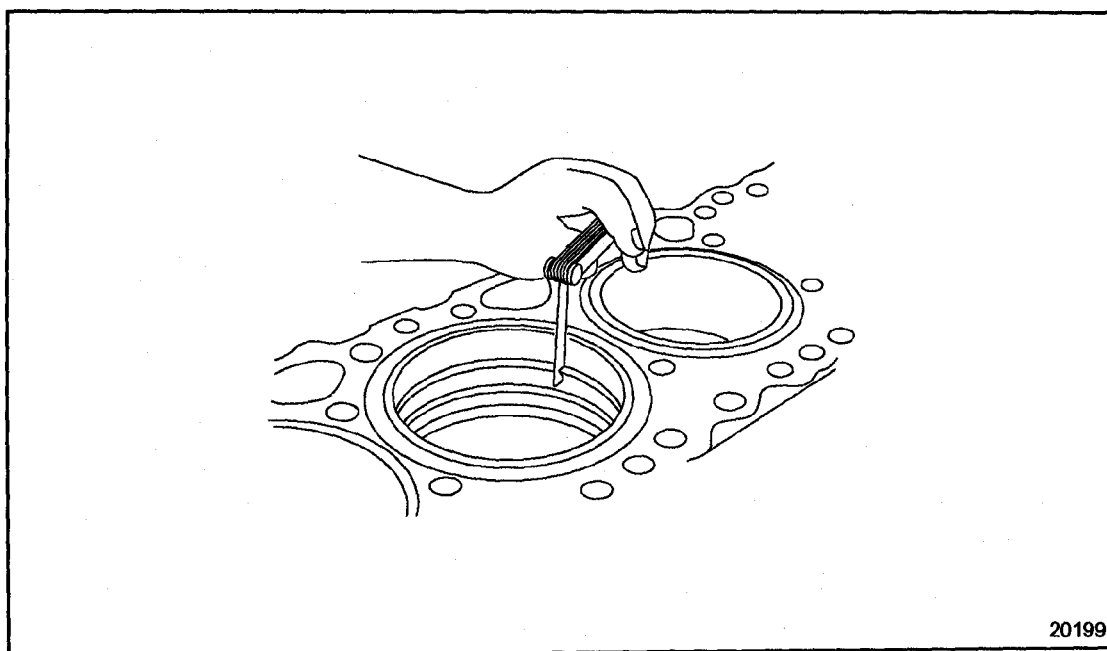

Figure 1-248 Piston Ring Gap Measurement
3. After the three rings have been positioned in the liner, measure the ring gap of the top ring with a feeler gage. See Figure 1-248. Remove the ring from the liner after the measurement is complete.